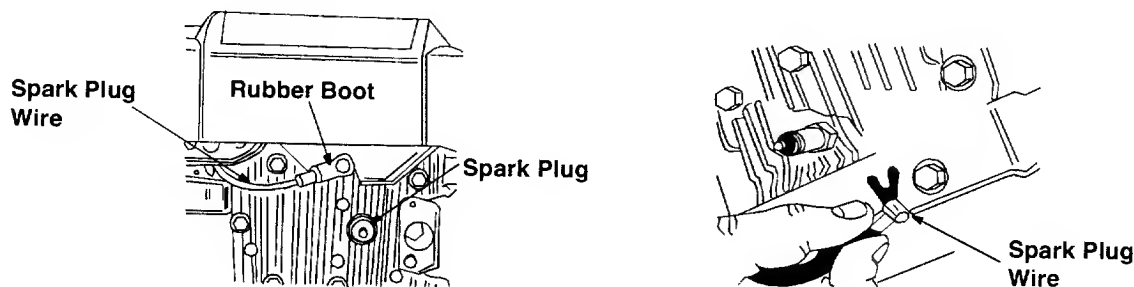

FIGURE 2
- Before setting up your lawn mower, disconnect the spark plug wire from the spark plug, and ground it against the engine. See Figure 2.